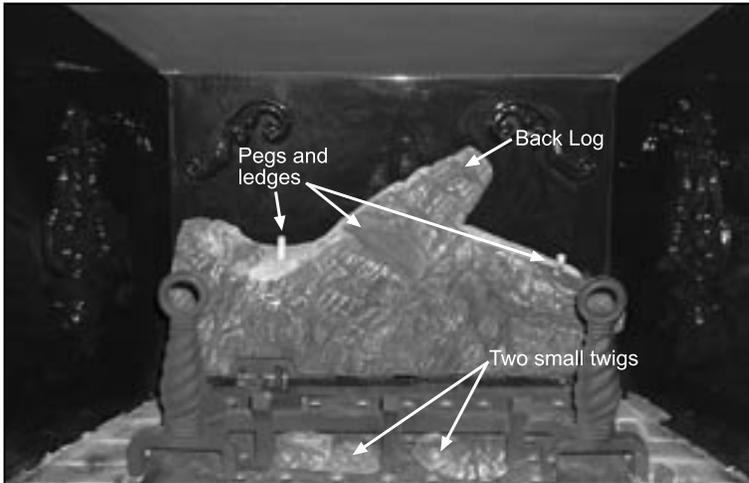

Figure 39: First Stage Log Set Installation.
The placement of the logs is not arbitrary. If they are positioned incorrectly, the flames can be “pinched” and will not burn correctly. The burner and a few of the logs come with locator pins, notches, and ledges which make alignment easier. The andirons and grate must be installed for the logs to be placed properly. Using the pictures provided, carefully set the logs in place (see figures 39 through 43).
Figure 39: Shows the **back log** plus the **two (2) small log twigs**. Put the large back log in first, making sure the locator pins line up with the cutout sections on the log. There are two (2) pins with ledges and a single ledge on the back log. The back log sits on two (2) supports attached at the rear of the firebox. The two (2) small twigs are placed under the grate and they should be rotated so they cover up the least number of small burner ports.